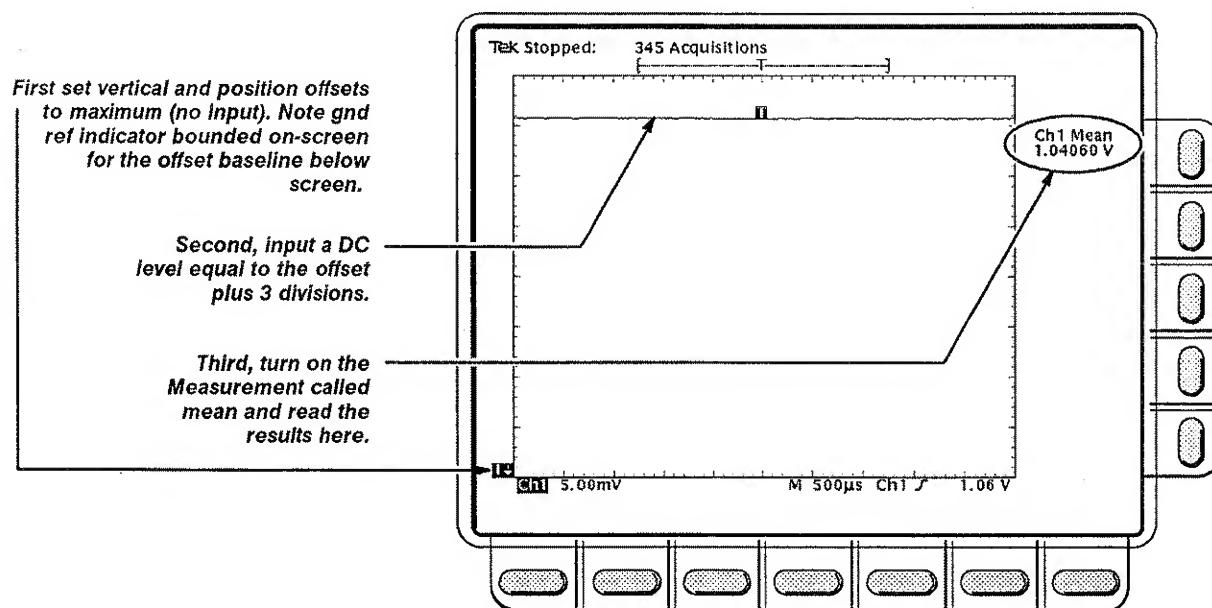

Figure A-7: Measurement of DC Accuracy at Maximum Offset and Position
- e. *Measure the test signal:* Press **CLEAR MENU**. Read the measurement results at the **Mean** measurement readout. See Figure A-7.